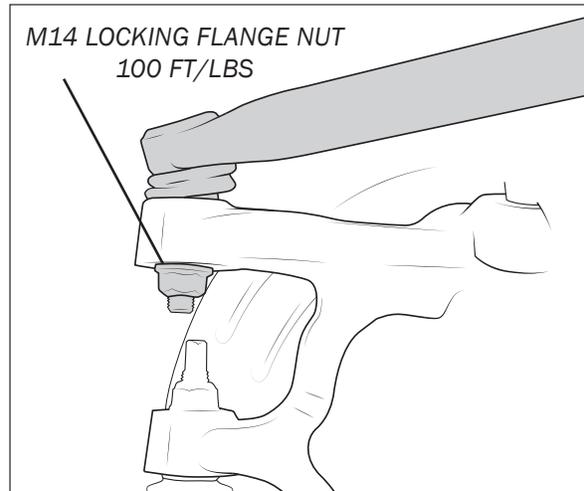

Figure 35
- c. Install the new drag link into the knuckle and torque to **100 ft-lbs** (fig. 35).